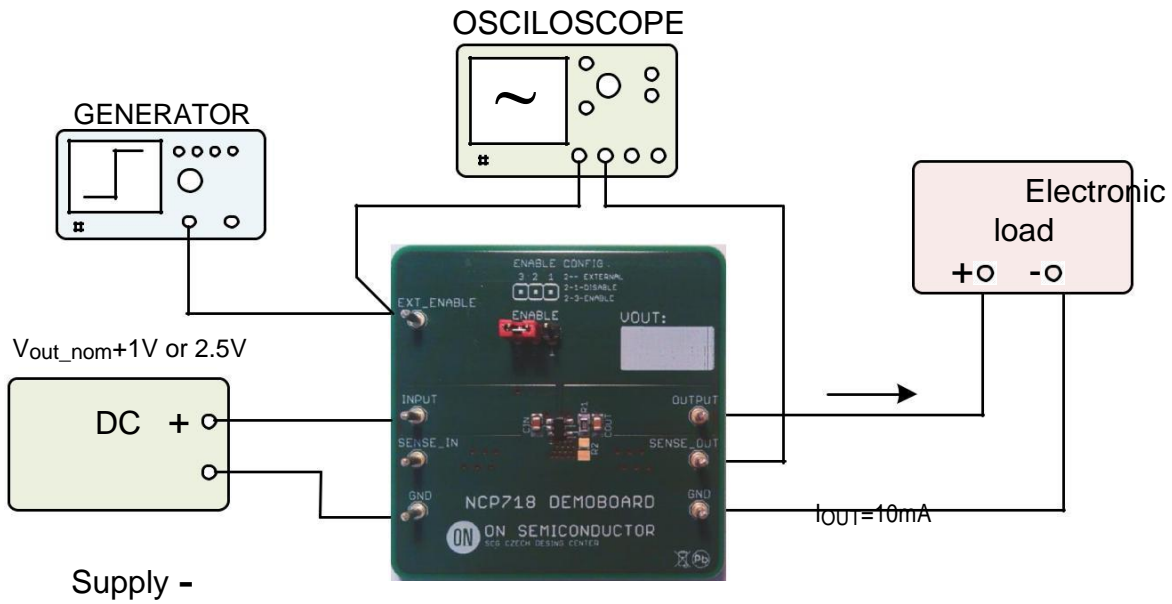

Figure 4: Test configuration for measurement enables response
1. Connect circuit as shown on figure 4.